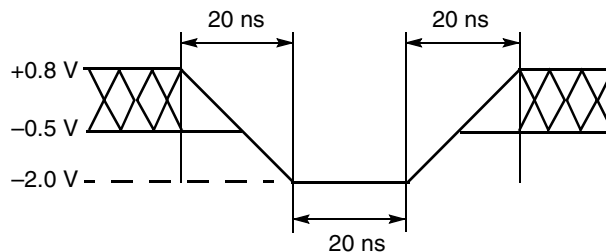
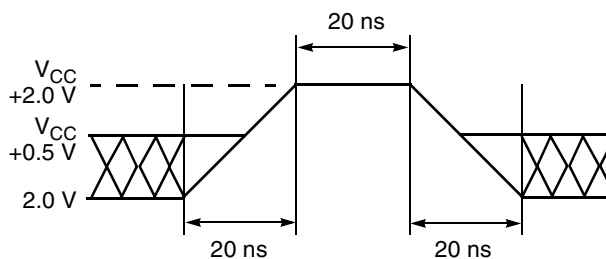

Figure 9. Maximum Negative Overshoot Waveform
Figure 10. Maximum Positive Overshoot Waveform
1. Minimum DC voltage on input and I/O pins is -0.5 V. During voltage transitions, input and I/O pins may overshoot V_{SS} to -2.0 V for periods of up to 20 ns. See Figure 9. Maximum DC voltage on input and I/O pins is V_{CC} + 0.5 V. During voltage transitions input or I/O pins may overshoot to V_{CC} + 2.0 V for periods up to 20 ns. See Figure 10.
2. Minimum DC input voltage on pins A9, OE#, and RESET# is -0.5 V. During voltage transitions, A9, OE#, and RESET# may overshoot V_{SS} to -2.0 V for periods of up to 20 ns. See Figure 9. Maximum DC input voltage on pin A9 and OE# is +13.0 V which may overshoot to 14.0 V for periods up to 20 ns.